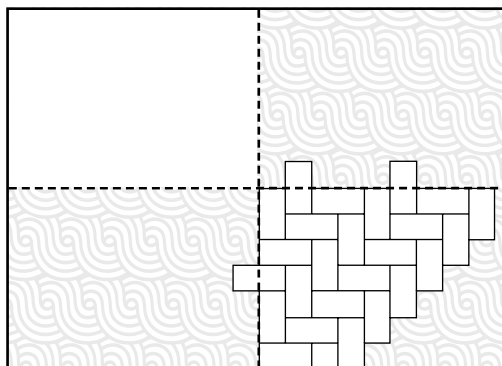

Fig. 19 - Adjust the chalkline 6" in either direction if necessary to achieve a larger border tile. After completing dry layout spread adhesive in 3 quadrants.
**Tip: Spread adhesive in 3 quadrants (starting quadrant and adjacent quadrants) when installing a herringbone layout (Fig. 19).**